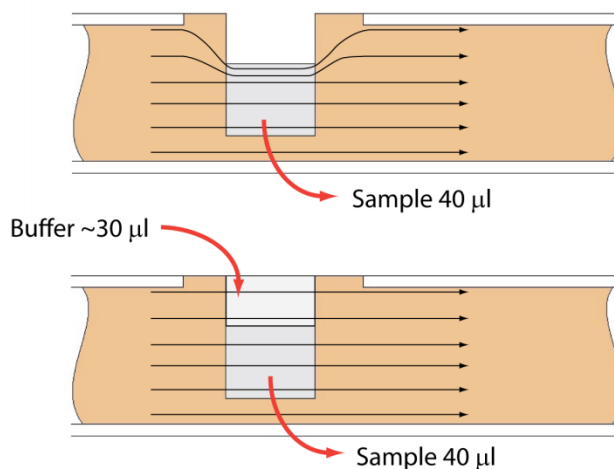

Figure 11.1. An illustration of the electrophoretic effect on a DNA sample when a sample well is not completely filled.
Proper sample loading is critical for best performance of BluePippin cassettes. For maximum reproducibility and accuracy, the sample should travel through the central section of the gel column, and should be bounded on all four sides by uniformly conductive media – either gel or electrophoresis buffer. The goal of the loading procedure is to produce this geometry in the sample loading well as illustrated in the bottom section of **Figure 11.1**. Properly prepared samples will be 40 μ l in total volume consisting of 30 μ l of DNA mixed with 10 μ l of BluePippin internal standard mix or loading solution. The loading solution contains concentrated Ficoll as a densifying agent (see the Section 6 on Sample Preparation for details), and therefore the samples will sink and form a high density layer beneath the electrophoresis buffer when pipetted slowly into the sample wells. If there is insufficient conductive buffer over the sample, the electrophoretic forces lines will curve upward as the sample exits the well (see **Figure 11.1**, upper section), and the sample will be drawn to the top of the cassette where it can travel out of the gel into the gap between the gel column and the plastic top of the channel. Sample moving in this gap will travel at a different rate than the sample inside the gel column and will lead to elution of undesired size fractions in the eluted material. In such cases, the contaminating DNA will usually (but not always) be higher in molecular weight than the selected DNA.
2. **Remove 40 μ l of buffer from the first sample well, and load 40 μ l of sample (or marker) into that well.** Take care not to pierce the agarose with the pipette tip. There is gel on all sides and bottom of the sample well. In addition, there is an agarose “chimney” surrounding the top of the sample well that protrudes up through the cassette cover (see **Figure 11.1**). When removing buffer, some users find it useful to immerse the pipette tip just below the surface of the buffer and follow the liquid level down with the tip as the buffer is removed. When buffer removal is completed, there will be ~30 μ l of buffer left in the well. When adding sample, place tip of pipette just below the surface of the buffer, and follow the liquid level up with the tip as the well fills. Don't be concerned if the sample well slightly overfills. The density of the sample will allow it to sink before it can flow out of the well.